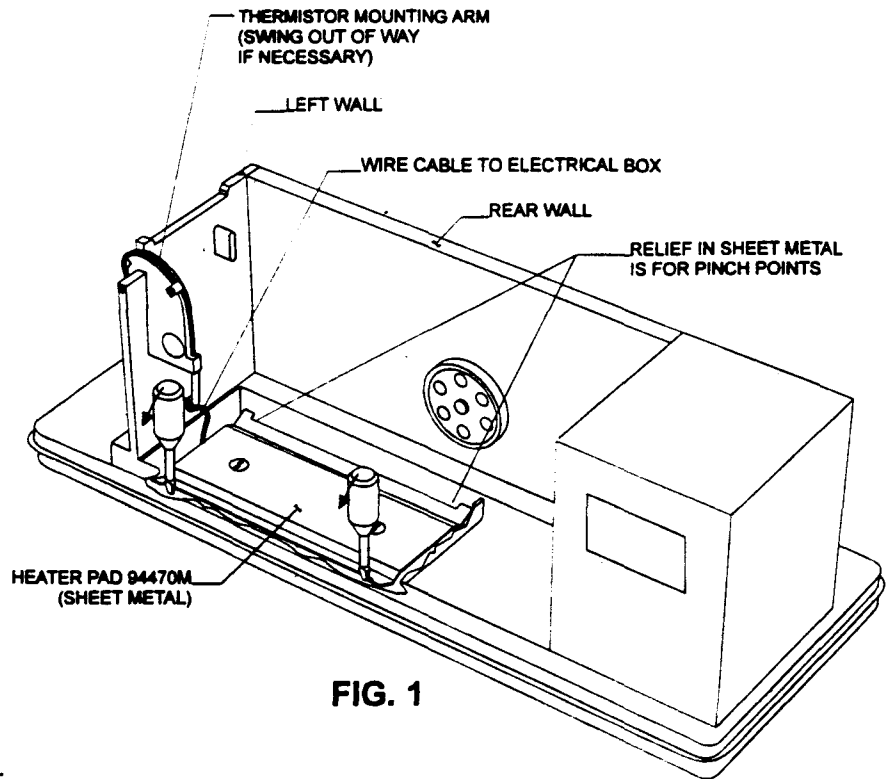

FIG. 1
3. Position processor so that it's front faces you. Remove heater plate from base as shown in Figs. 1 and 2. (Use 2 standard screwdrivers).